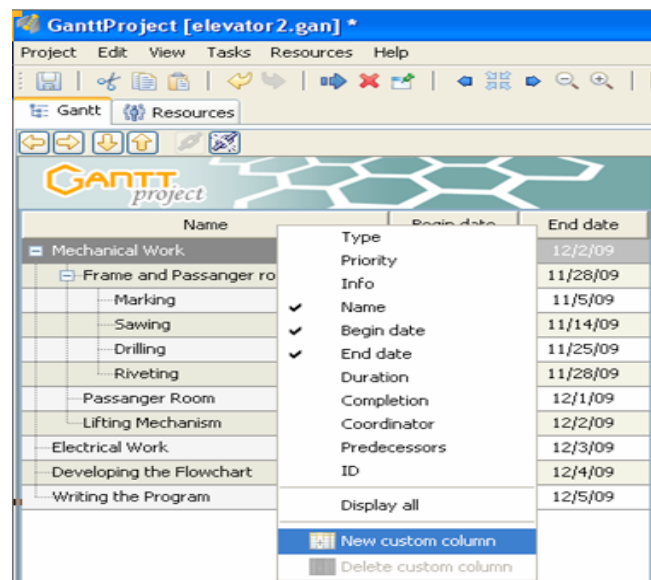

Figure 4.23: Creating a New Custom Column.
22. In order to assign a Task Lead for every Task, right click on the task pane, and then choose **New Custom Column** as illustrated by figure 4.23.